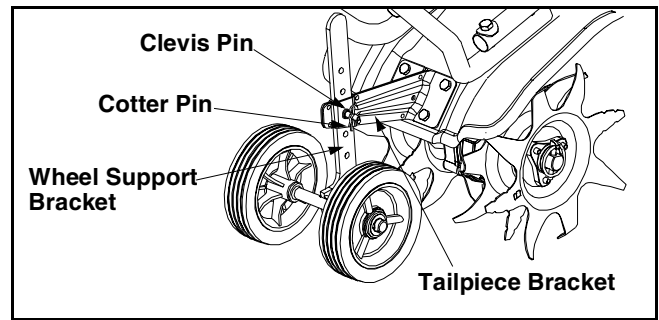

Figure 5
- Remove cotter pin from the clevis pin and slide pin out of tailpiece bracket. See Figure 5.